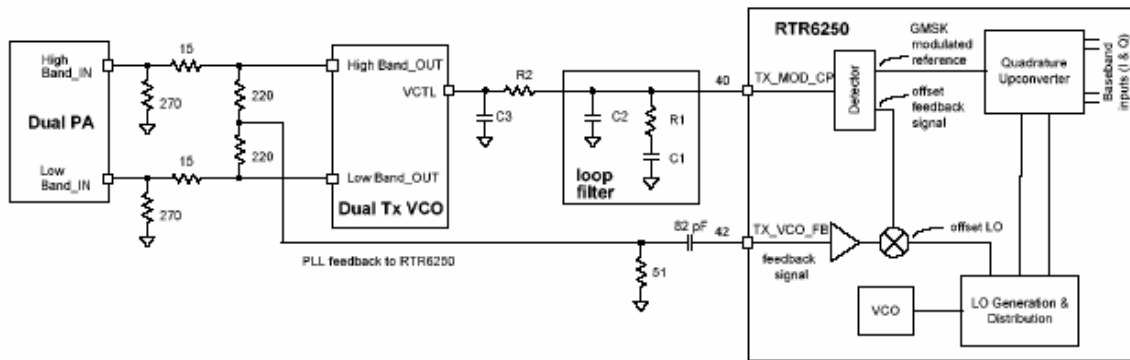

Figure 3.2.2-1 Offset phase-locked loop interfaces
The shared GSM Low-band (EGSM900) and High-band (DCS1800, PCS1900) transmit path begins with the baseband inputs from the MSM6250 IC. These differential analog input signals are buffered, lowpass filtered, corrected for DC offsets then applied to the GSM quadrature upconverter. The upconverter LO signals are generated from the transceiver VCO signal by the LO distribution and generation circuits within RTR6250. This upconverter translates the GMSKmodulated signal to a convenient intermediate frequency (IF) that forms one input to a frequency/phase detector circuit. This IF signal is the reference input to an offset phase-locked loop (OPLL) circuit as shown in Figure 3.2.2-1.